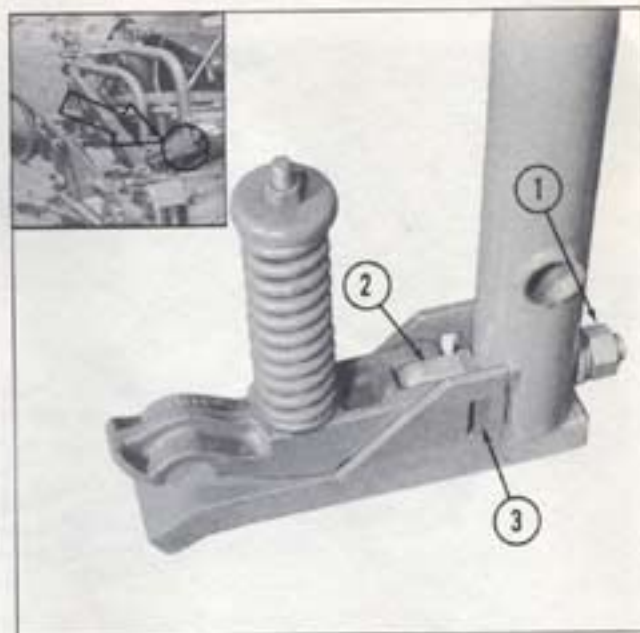

Fig. 33 Lead Adjustment
5. The cutter bar lead adjustment is taken up at the attachment point of the safety release latch (Fig. 33). To increase the cutter bar lead, slacken off the hex nut (No. 1, Fig. 33) tap the bolt (No. 2, Fig. 33) rearward and slide out one or two of the slotted shims (No. 3, Fig. 33). Retighten the nut and recheck the lead measurement. Continue to remove shims until the correct meas-